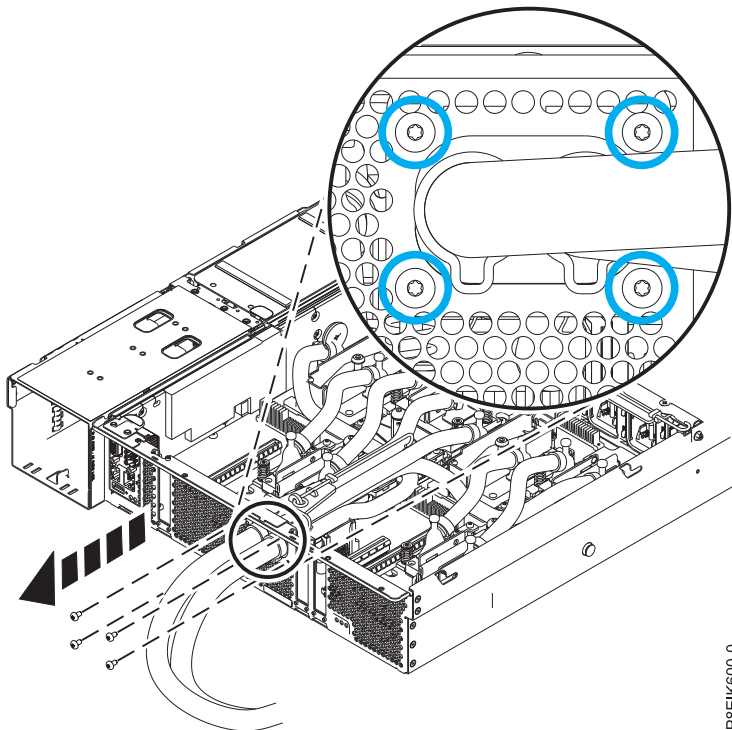

Figure 1. Removing the rear water hose screws
2. Remove the four screws that secure the water hoses to the rear of the system as shown in Figure 1.